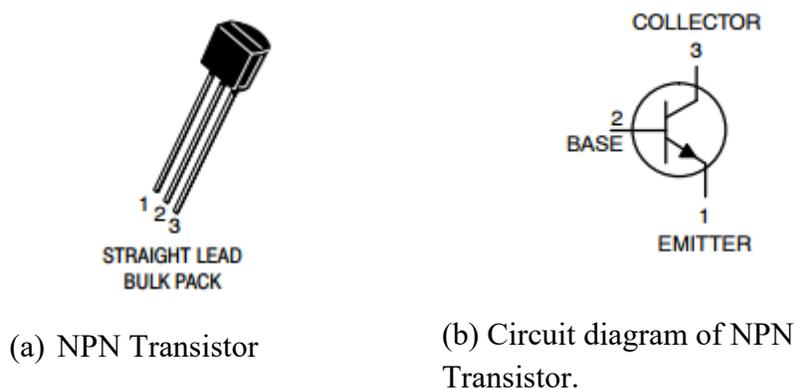

Figure 1.7. An NPN Transistor, an electronic (semiconductor) switch.
1.5 There are times when you want to control a circuit automatically rather manually. Consider your air conditioner at home. You could turn it on and off manually, or you can use a thermostat that has a sensor to measure the temperature and a control system to turn the air conditioner on or off in order to maintain a desired temperature. In this case, you need to have a switch that can be controlled electronically. Transistors are electronic switches. Figure 1.7 shows the circuit diagram for a NPN transistor.